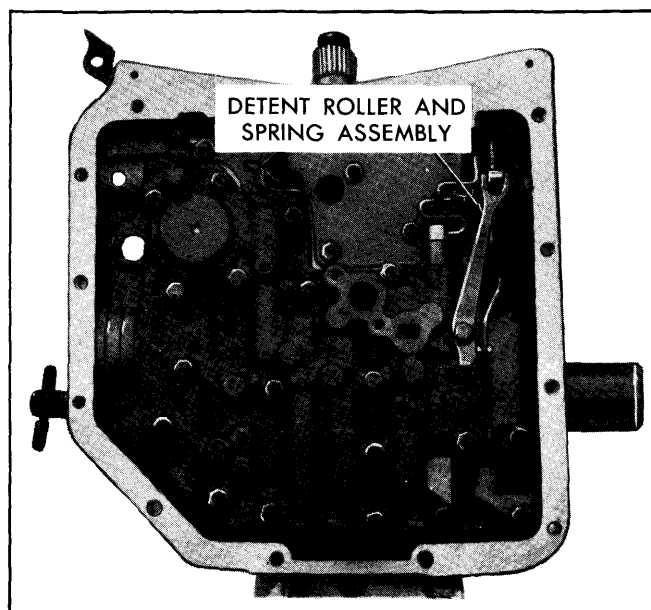

Fig. 7-18—Detent Spring and Roller Assembly
1. Remove detent roller and spring assembly from valve body. Remove valve body to case attaching bolts. (Fig. 7-18)